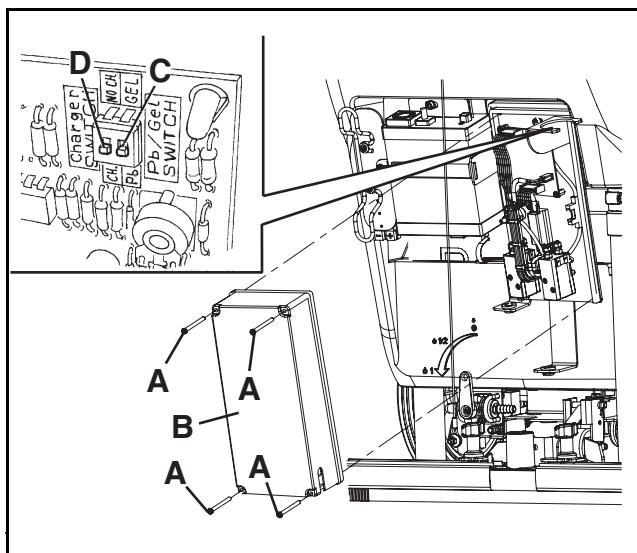

Figure 7
2. Remove the screws (A, Fig. 7) and carefully pull out the electrical component box cover (B).
3. Push the microswitch (C, Fig. 7) downwards to WET position.
**Do not move the adjacent switch (D, Fig. 7).**
4. Reinstall the electrical component box cover (B, Fig. 7) and tighten the screws (A).